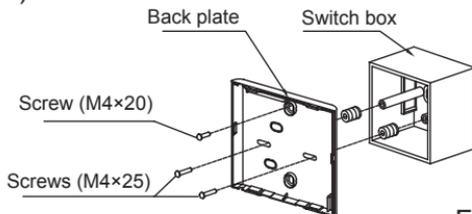

Fig 3-7
- For switch box mounting, fasten the back plate on the switch box with 2 screws (M4x25) and fasten it on the wall with 1 screw (M4x20). (Fig.3-7)